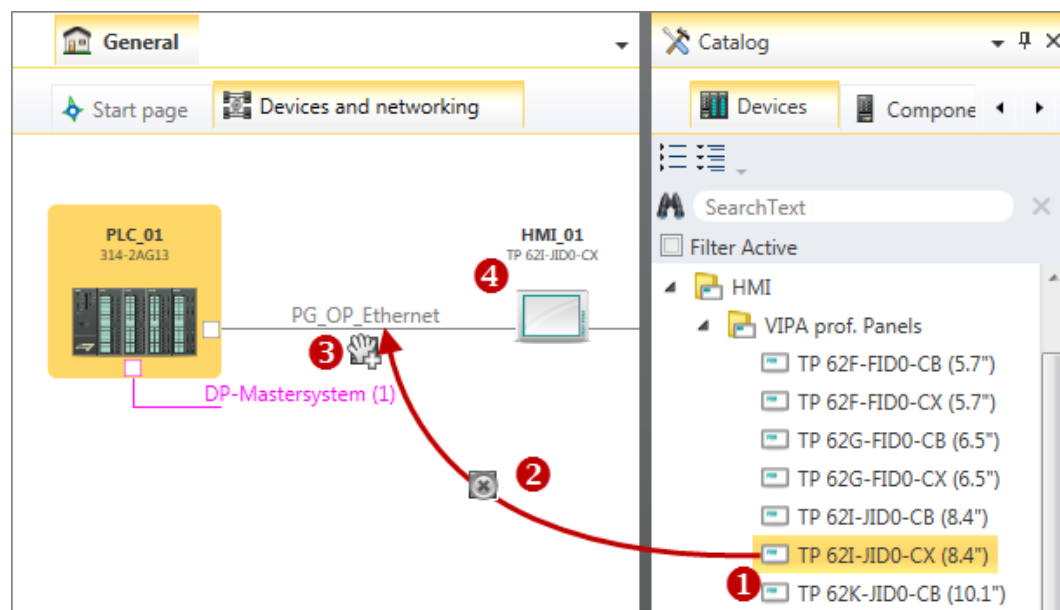

Fig. 57: Adding HMI device via "Catalog"
- **Catalog:** Drag the desired HMI device from the 'Device templates' register of the catalog ( ↪ Chapter 4.9 'Catalog' on page 30) to the connecting line "PG\_OP\_Ethernet" in the 'Devices and networking' editor. Fig. 57